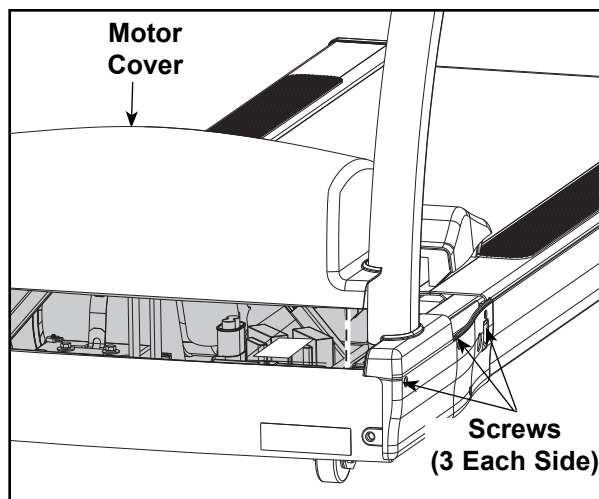

Figure 2
- A. Turn the main power switch on the left side to the off (O) position.
- A. Using a Phillips head screwdriver, loosen three screws on each motor cover side (left and right). See Figure 2.
- B. Lift the motor cover up and off the treadmill. The screws will stay in place. See Figure 2.